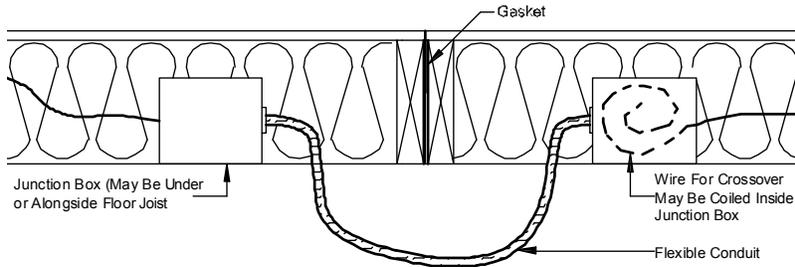

Figure 64. Under the rim joist electrical crossover connection with conduit
2. **Connect wires.** If wire is coiled inside one junction box, insert it into flexible conduit and pass it under the rim joists to the opposing box and make the connection as described above. If no coiled wire is provided, install conduit with wire making connections in both boxes (**Figure 64**).